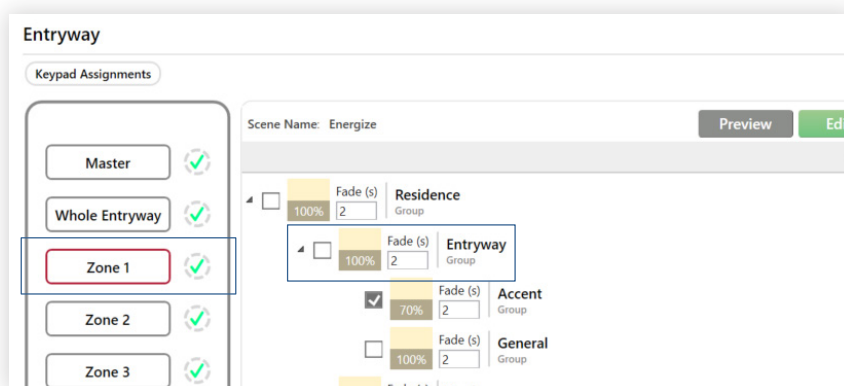

fig. 57
**Note:** To exclude a group from a scene, select the scene button in the **Keypads** tab and uncheck the group. (See fig. 57.) A common error is to try to exclude groups from scenes using the NA feature on the **Scenes** tab rather than unchecking the group on the **Keypads** tab. NA groups do not respond to the activation of a scene, but they do turn off when the scene is deactivated, and they are also affected by the keypad’s dimming controls.